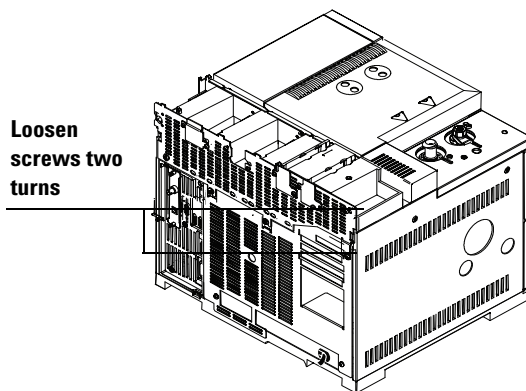

Figure 1 Loosen two back panel screws
- a From the back of the GC, loosen the two screws on the right side of the top rear cover two turns. See Figure 1.